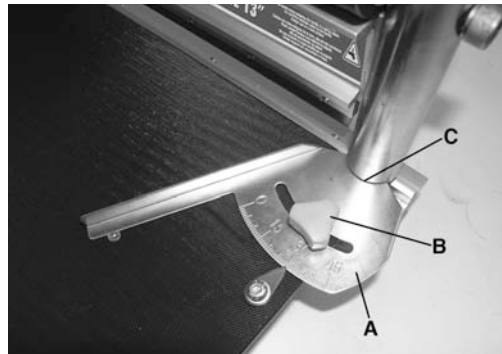

Figure 4
2. Set the miter gauge (A) Fig.4 angle. Loosen the miter gauge lock knob (B) and position the miter gauge in the desired angle. Make sure the rounded section (C) of the miter gauge rests against the frame post as shown before tightening lock knob.